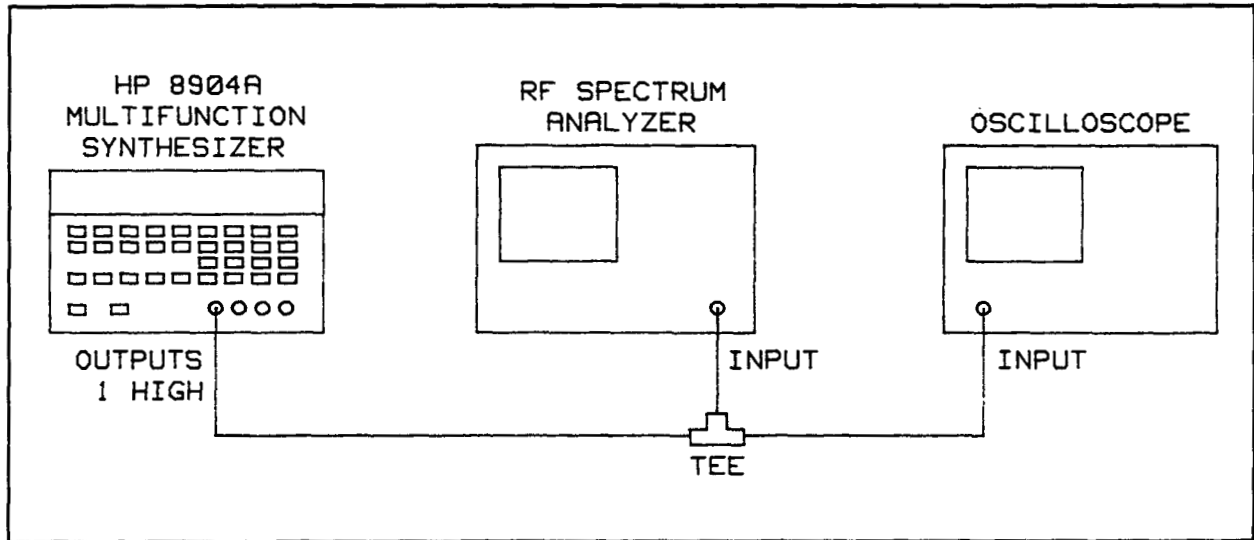

Figure 4-7. Tone Sequence Timing Accuracy Performance Test Setup
1. Connect the Multifunction Synthesizer OUTPUTS 1 HIGH output to the high-impedance, ac coupled oscilloscope's input and to the (non-floating) input of the audio spectrum analyzer using a tee. Refer to Figure 4-7.